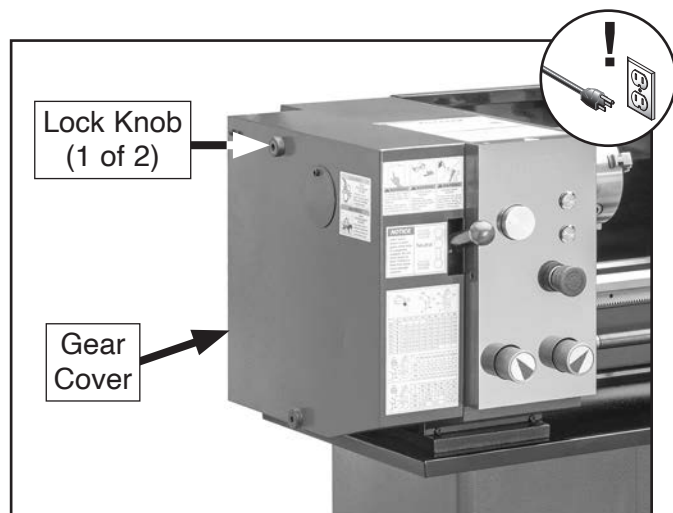

Figure 74. Location of gear cover and lock knobs.
3. Remove gear cover lock knobs to remove gear cover (see **Figure 74**).